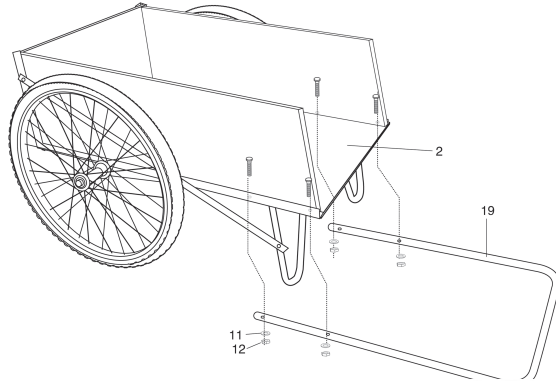
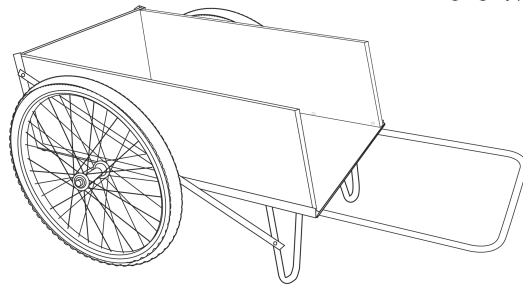

Fig. 4
Fig. 5
**STEP 4: Attach Handle (See Fig. 4 & Fig. 5)**
1. Loosen Washer (11), Lock Nut (12), then assemble Handle (19) on Side Panel (11), using with Washer (11) and Lock Nut (12) to tighten.